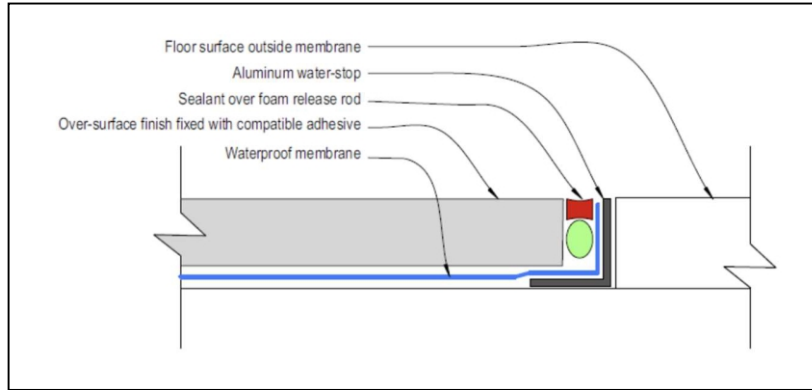

Figure 14: Water-stop at termination of waterproof membrane system
- ◆ Figure 14: Water-stop at termination of waterproof membrane system